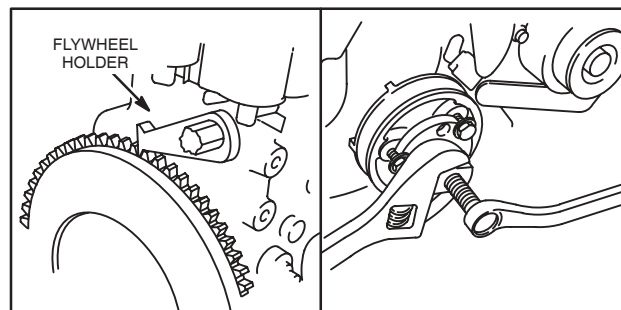

Fig. 3 – Removing Crankshaft Pulley
- a. Remove crankshaft pulley using Tool # 19420, Fig. 3.